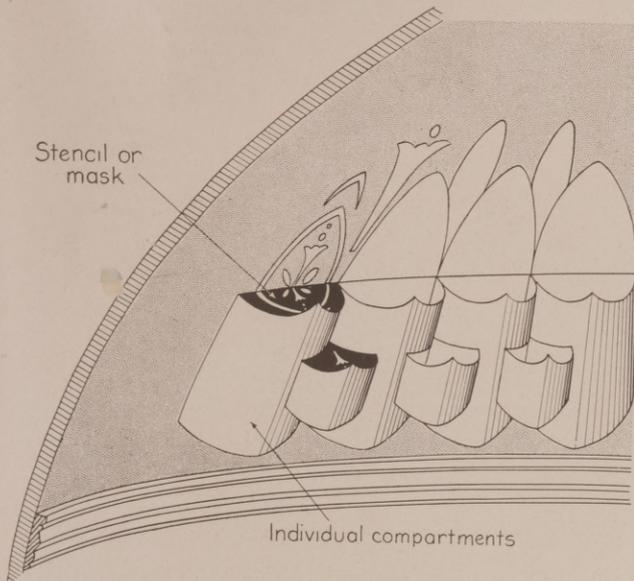

Fig. 6. A graphical illustration of the idea in the text, with no attempt to show the patterns in detail
**Colorama:** Colorama, the recently devised color shadow device, is a suitable method for providing a wide variety of effects. The parts of this system can be made an integral part of the design, Fig. 6. By the simple "twist of the wrist" new patterns can be created on the surface above the individual compartments and by placing masks or stencils over each compartment or group of compartments a greater variety of patterns can be obtained.